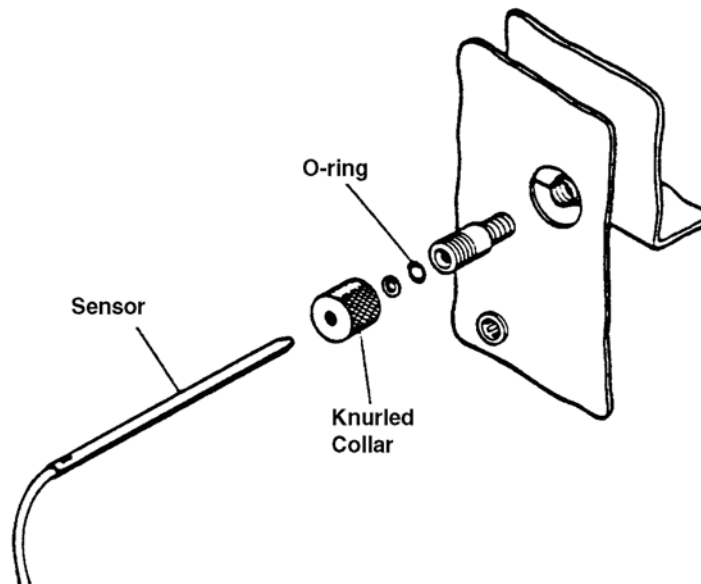

Figure 4-9. Developer sensor assembly.
- (1) Disconnect the power and drain the developer tank to a level below the sensor.
- (2) Disconnect the sensor leads. Unscrew the knurled collar on the sensor and pull the sensor out.
- (3) When installing a new sensor:
- (a) Make sure the O-ring and washer are in place between the tank fitting and the knurled collar. Refer to figure 4-9.